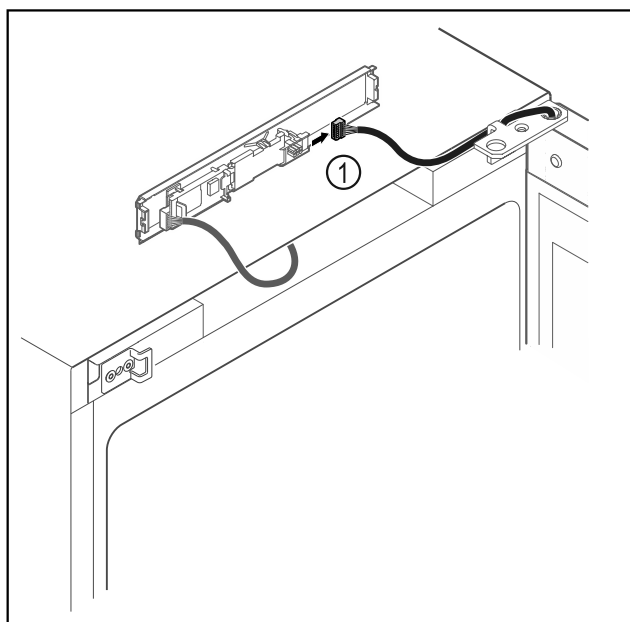

Fig. 13
- Disconnect the plug Fig. 13 (1) from the circuit board.